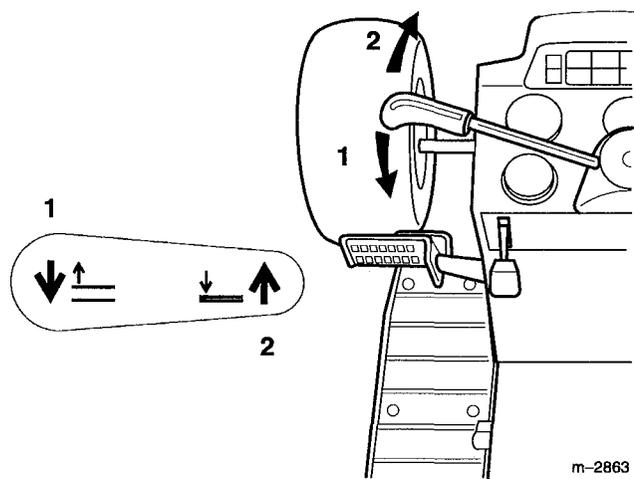

Figure 11
The attachment power lift (Fig. 11) is used to raise and lower attachments.
2. Pull the lift lever toward you to raise the attachment lift (Fig. 11). This will lift and hold the attachment in the up, or raised position.
2. Push the lift lever away from you to lower the attachment lift (Fig. 11). This will lower the attachment lift.